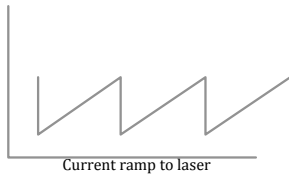

Figure 1.
- A current ramp is fed to the laser. This is the fine wavelength adjustment. **Figure 1.**